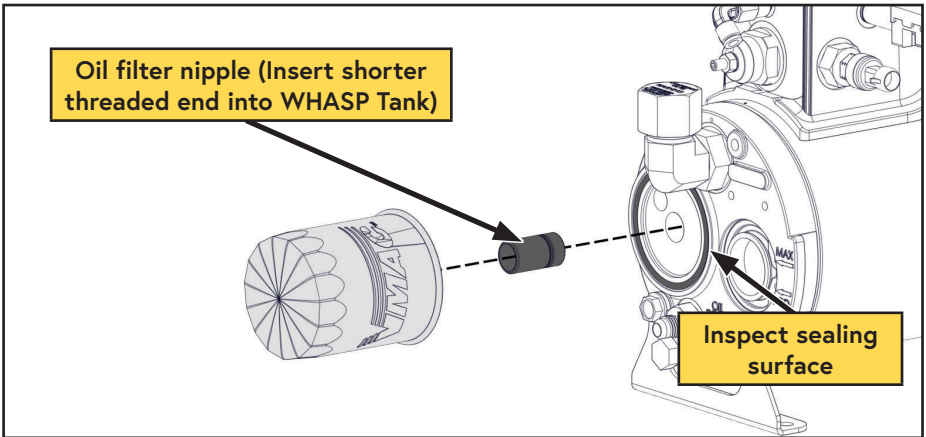

Figure 31 — Compressor oil filter
- *To reinstall the nipple, thoroughly clean the threads and apply Loctite 242 (blue) to the end with the short threads and replace it in the tank (Figure 31).
- Clean the gasket sealing surface on the front of the tank and inspect it for damage. The surface must be free of old gasket material and smooth to ensure a good seal (Figure 31).